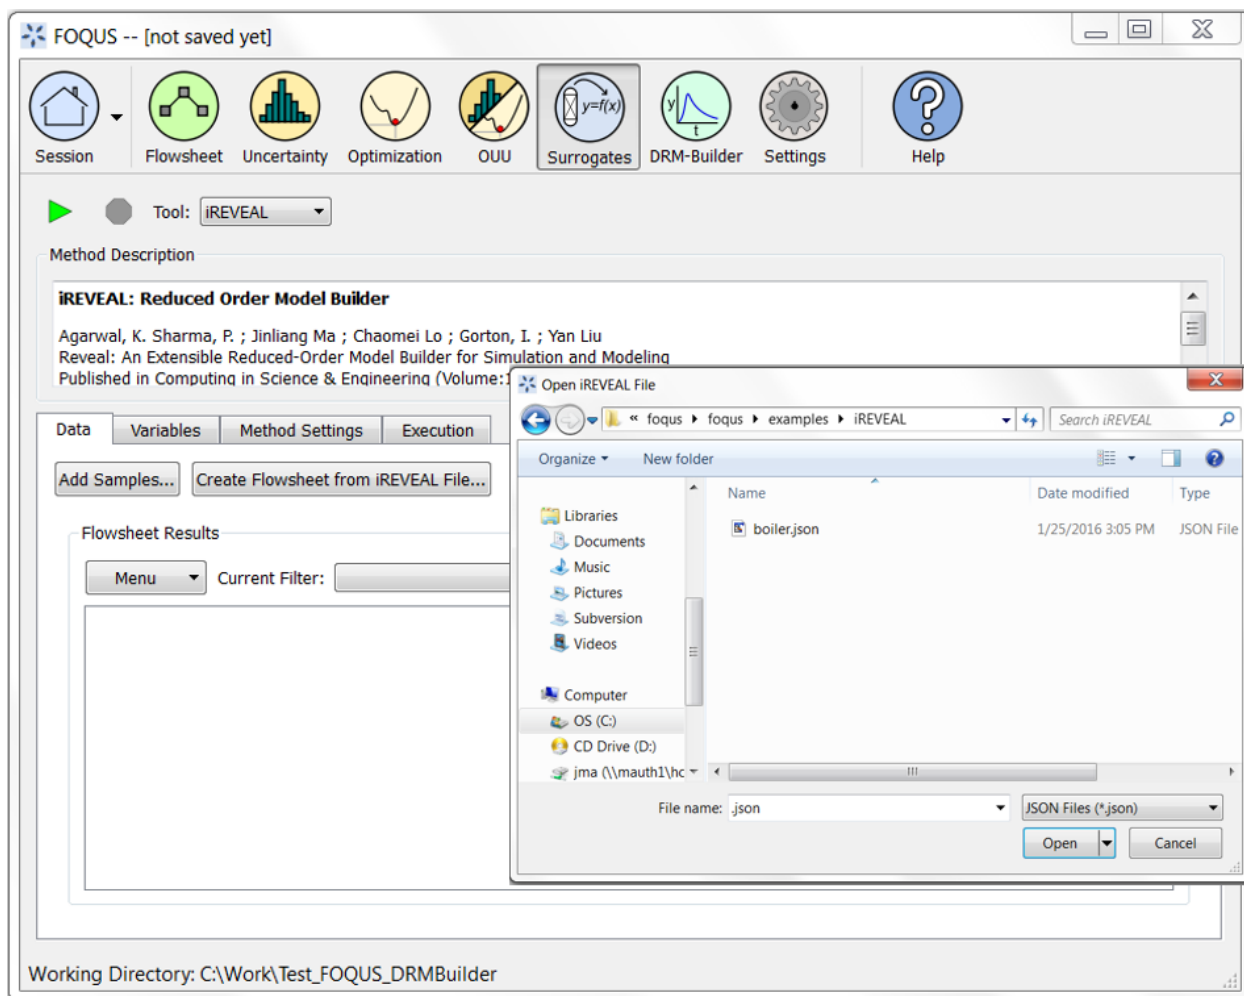

Figure 3: Create a Flowsheet From Configuration JSON File
1. Click “Create Flowsheet from iREVEAL File” in the “Data” frame. An “Open iREVEAL File” dialog window displays. Browse to the input JSON file. For testing with sample browse to “FOQUS_installation/examples/iREVEAL” directory, select the “boiler.json” file, and then click “Open” (as shown in Figure 3).